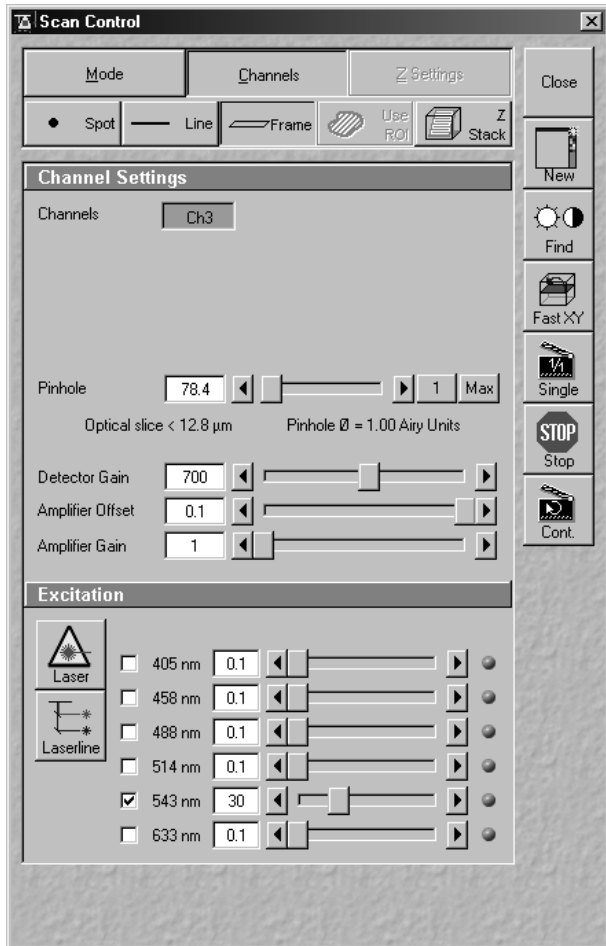

Fig. 5-354 Scan Control window (Channels)
- In the **Scan Control** window, click on the **Cont.** button (see Fig. 5-354).